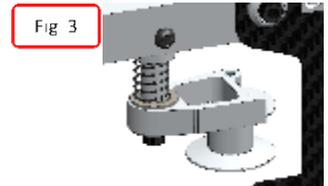
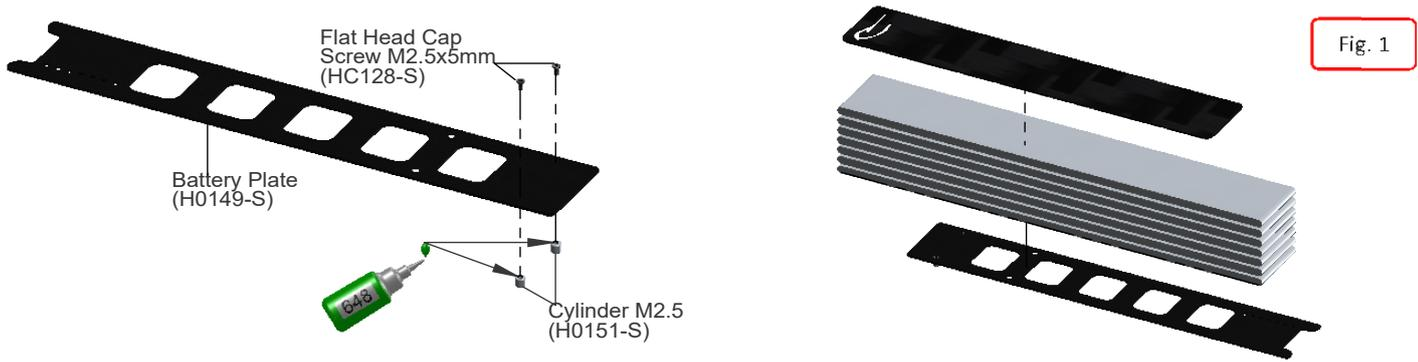

Fig 3
Fig. 1
- *In **figure 3,4,5** you can see the three conditions, ok, too loose and too tight.
The battery tray system in the Goblin 700 is simple, but very effective. The battery should be attached to the tray (Part H0149) with heat shrink, tape or velcro. You can optionally use the battery protection tray (Part H0151) see Fig. 1, 2. Before permanently mounting the batteries onto the battery tray, check the ideal position for the best center of gravity. Cut the heat shrink around the carbon fiber tray locking pins. Fig. 3.